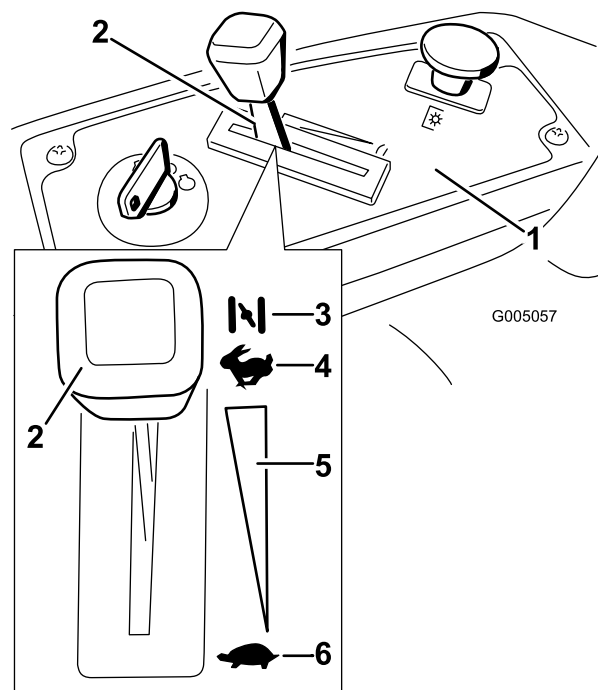

Figure 16
3. Move the throttle lever to Choke before starting a cold engine (Figure 16).
- After the engine starts, move the throttle lever to Fast (Figure 16). If the engine stalls or hesitates, move the throttle lever back to Choke for a few seconds. Repeat this as required.
- Turn the ignition key to Off (Figure 16).